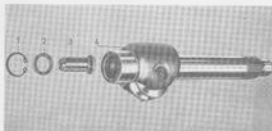

Fig. 6-55. Pitman arm shaft
can be removed from the pitman arm shaft after the circlip has been removed, see Fig. 6-55.
4. Fit the adjusting screw, washer and lock ring on the pitman arm shaft, see Fig. 6-55. The adjusting screw play axially should be as little as possible and should not exceed 0.05 mm (0.002"). The play is reduced by exchanging the washer (2) for a thicker one. However, the adjusting screw should rotate easily after fitting.